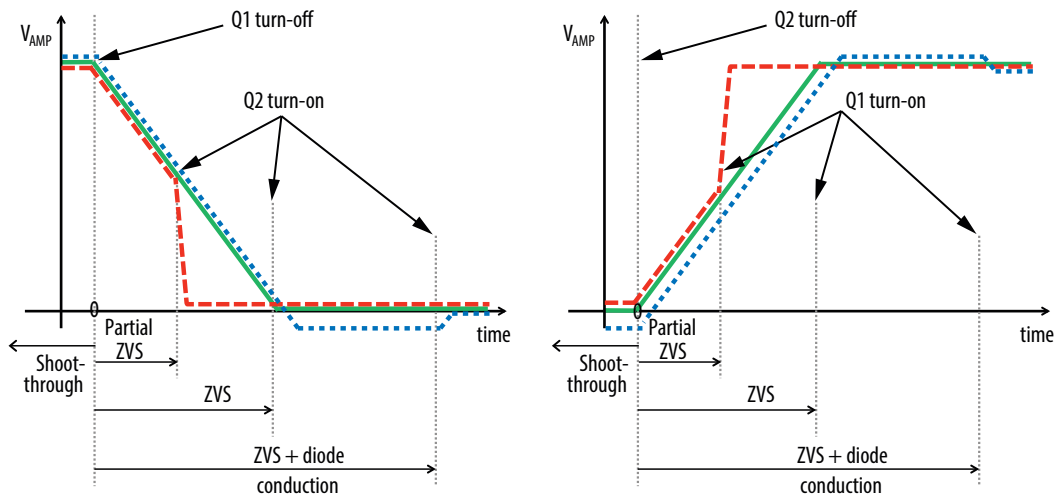

Figure 5: ZVS timing diagrams
Setting the correct time to establish ZVS transitions is critical to achieving high efficiency with the EPC9509 amplifier. This can be done by selecting the values for R71, R72, R77, and R78 or P71, P72, P77, and P78 respectively. This procedure is best performed using a potentiometer installed at the appropriate locations that is used to determine the fixed resistor values. The procedure is the same for both single-ended and differential mode of operation. The timing MUST initially be set WITHOUT the source coil connected to the amplifier. The timing diagrams are given in Figure 5 and should be referenced when following this procedure. Only perform these steps if changes have been made to the board as it is shipped preset. The steps are:
6. While observing the oscilloscope adjust the applicable potentiometers to so achieve the green waveform of figure 5.